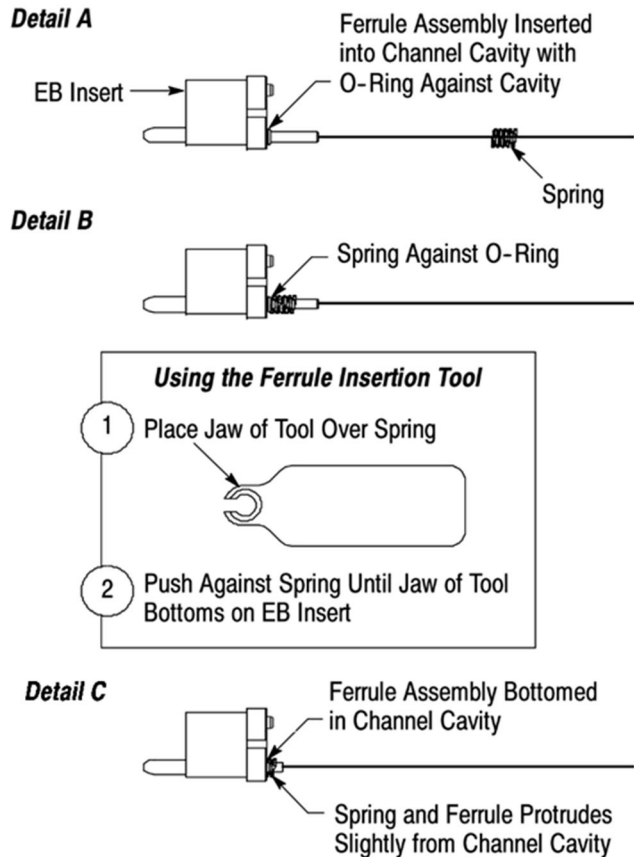

Figure 11
2. Align the end of the ferrule assembly with the appropriate channel cavity of the EB insert, and insert the ferrule assembly into the channel cavity until the O-ring is against the channel cavity. See Figure 11, Detail A. To avoid damage to the fiber, DO NOT push on the fiber to install the ferrule assembly.
3. Slide the spring over the fiber until it is against the O-ring of the ferrule assembly. See Figure 11, Detail B.
4. Using the ferrule insertion tool, **push on the spring** until the ferrule assembly bottoms in the channel cavity (the O-ring will be inside of the cavity, and the spring and ferrule will protrude slightly from the cavity). See Figure 11, Detail C.
- Modified Figures 11, 12, and 14 to illustrate revised EB insert and ferrule plate designs